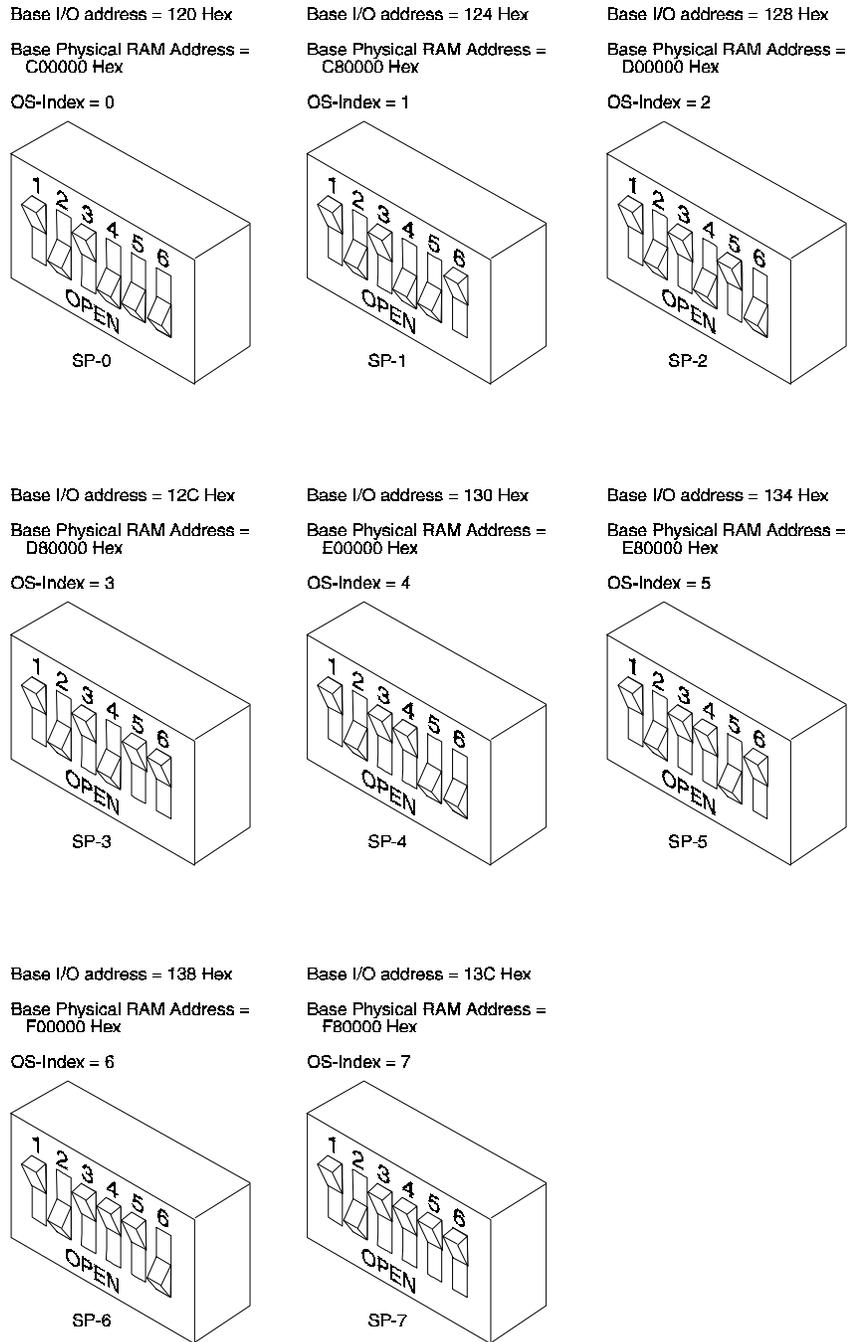

Figure 7-21. Switch Settings for Signal Processor Circuit Cards (AYC2B, AYC2C, and AYC9) SP-0 through SP-7
Set the switches as shown in Figure 7-21 for the correct I/O address switch settings for cards SP-0 through SP-7.
Notice in Figure 7-21 that the switches are numbered one (1) through six (6). Switch 1 is a no-option switch. This means its setting is not important. The figure shows this switch as open, but it does not matter if it is open or closed. Switch 2 must be closed. Switch 3 must be open. Figure 7-21 also displays the OS index number for the corresponding switch settings. CONVERSANT uses this index to identify each SP card.